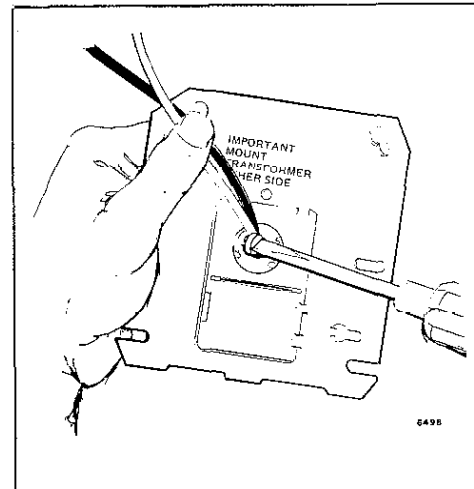

Fig. 3—Tighten clamp securely against rim of round hole.
4. With plate in place over clamp, tighten screw securely against rim of round hole. See Fig. 3. Avoid damaging the leadwires with the screwdriver.